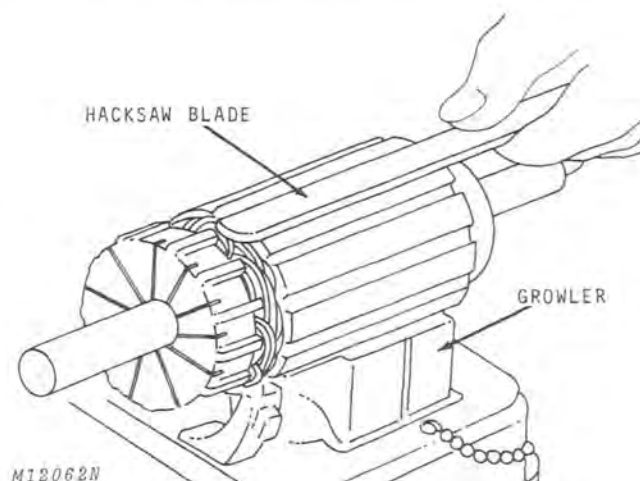

Fig. 9-Checking Armature for Short Circuits
1. **SHORTS** — A burned commutator bar indicates a shorted armature. Short circuits are located by rotating the armature in a growler with a steel strip (hacksaw blade) held on the armature, Fig. 9. The steel strip will vibrate on the area of the short circuit.